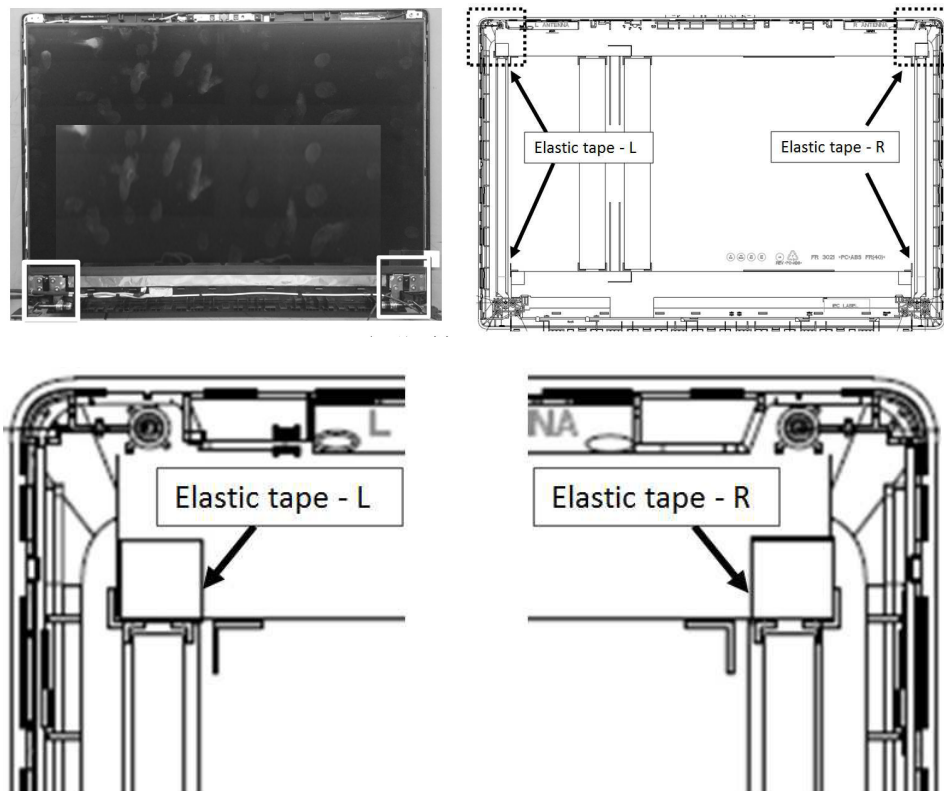

Figure 4-19 Removing two Elastic tapes
Remove the LCD Panel according to the following procedures and Figures 4-19 to 4-21.
1. Remove two Elastic tapes on the hinge, hold the Elastic tape and put it out parallel and then stretch it at about 45-degree angle until tape eliminated as Figure 4-19 show.
Install the LCD Panel according to the following procedures and Figures 4-19 and 4-21.